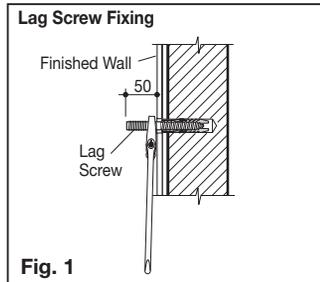

Fig. 1
- 3- Insert expansion fasteners into the drilled holes if required. Screw Lag Screw into the wall using the flats located on the screw section of the stud and spanner as shown in **Figure 1**. Allow 50mm of thread to protrude from the finished wall.